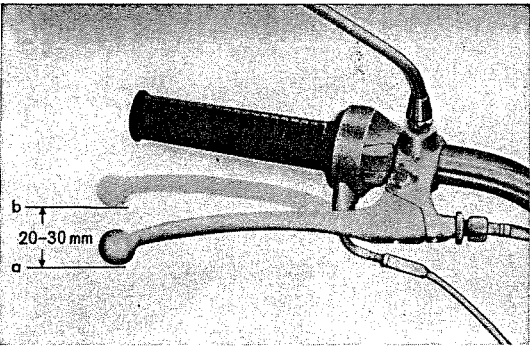

Fig. 6.33 Play of the front brake lever
- b. The play of the front brake lever is from (a) to (b). It should be from 20 to 30 mm (.78" to 1.17"). (Refer to Fig. 6.33)